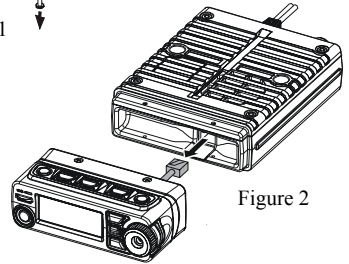

Figure 2
2. Disconnect the 8-pin modular plug from the transceiver (Figure 2).